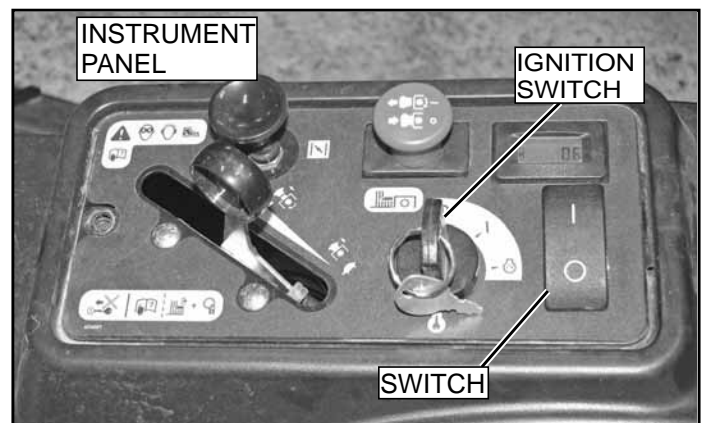

FIG. 2
5. Insert the switch into the rectangular cut-out oriented as shown in Fig. 2. It will snap into place.